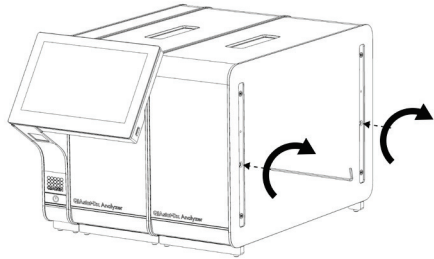

Figure 16. Aligning and attaching the additional Analytical Module.
4. Align the additional Analytical Module with the existing Analytical Module. Tighten the screws using the Analytical-Operational Module Assembly Tool delivered with the QIAstat-Dx Analyzer 1.0 (Figure 16, next page).